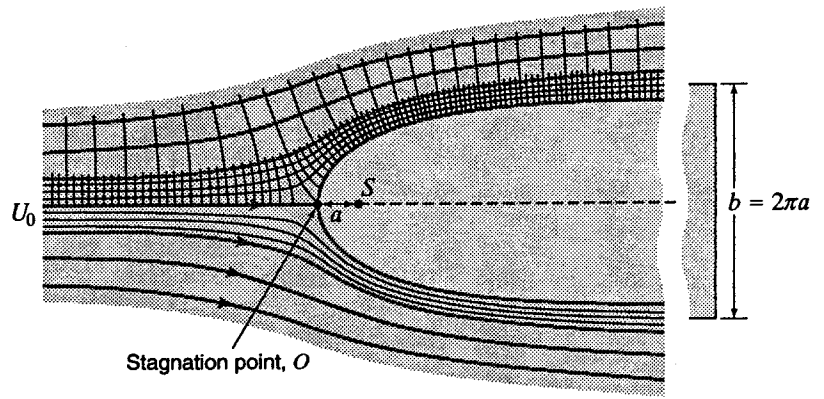

Figure 4.12
14.10 Using the method described in Sample Prob. 14.4, plot the boundary of the body and a set of streamlines for a steady two-dimensional flow past a body such as that of Fig. 4.12, for $b = 15\text{ m}$ using a scale of $1\text{ cm} = 2\text{ m}$.
For Fig. 4.12,
Note from Fig. 4.12: Stagnation point O is on the x -axis at $x = -b/2\pi = -15/2\pi = -2.39\text{ m}$